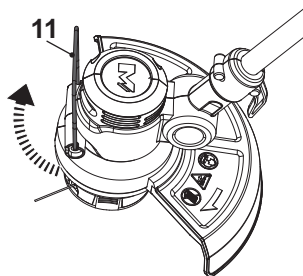

Fig. 6, storage position
2. Rotate the plant protector (11) back for transport and storage (Fig. 6).